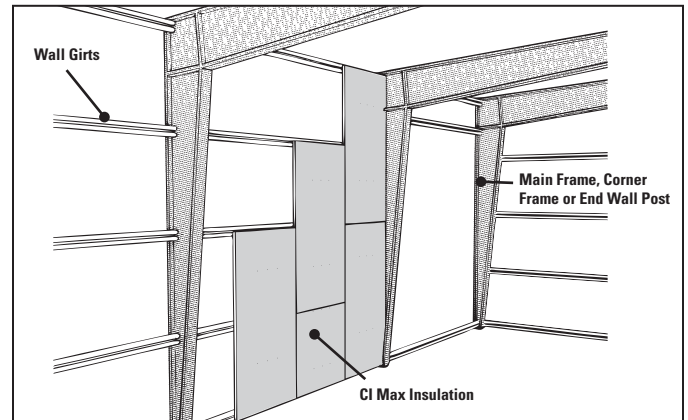

Figure 3. CI Max boards on interior of pre-engineered metal building
3. Use maximum board lengths to minimize number of joints. Locate joints square to girts and center end joints over girts. Provide additional framing as necessary. Stagger each course at least one girt. See Figure 3.